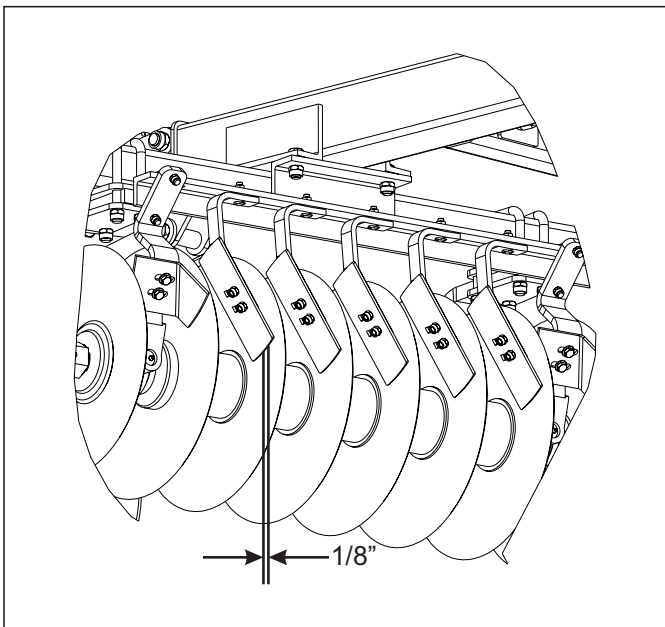

Figure 4-1: Disc Scraper to Disc Blade
5. Check disc scrapers for proper adjustment to the disc blade (**See Figure 4-1.**)